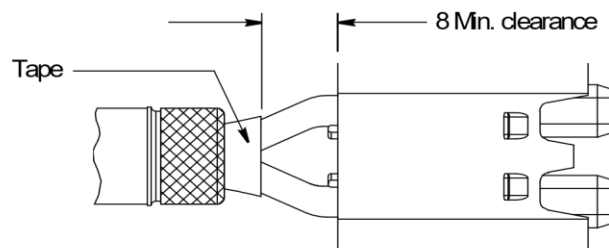

Figure 10
2. (OPTIONAL) Two or three wraps of 150° rated tape may be used as shown in Figure 10 to gather the wires if desired. Tape must not overlap onto the braided shield and must remain clear of the inner housing by no less than 8 mm.